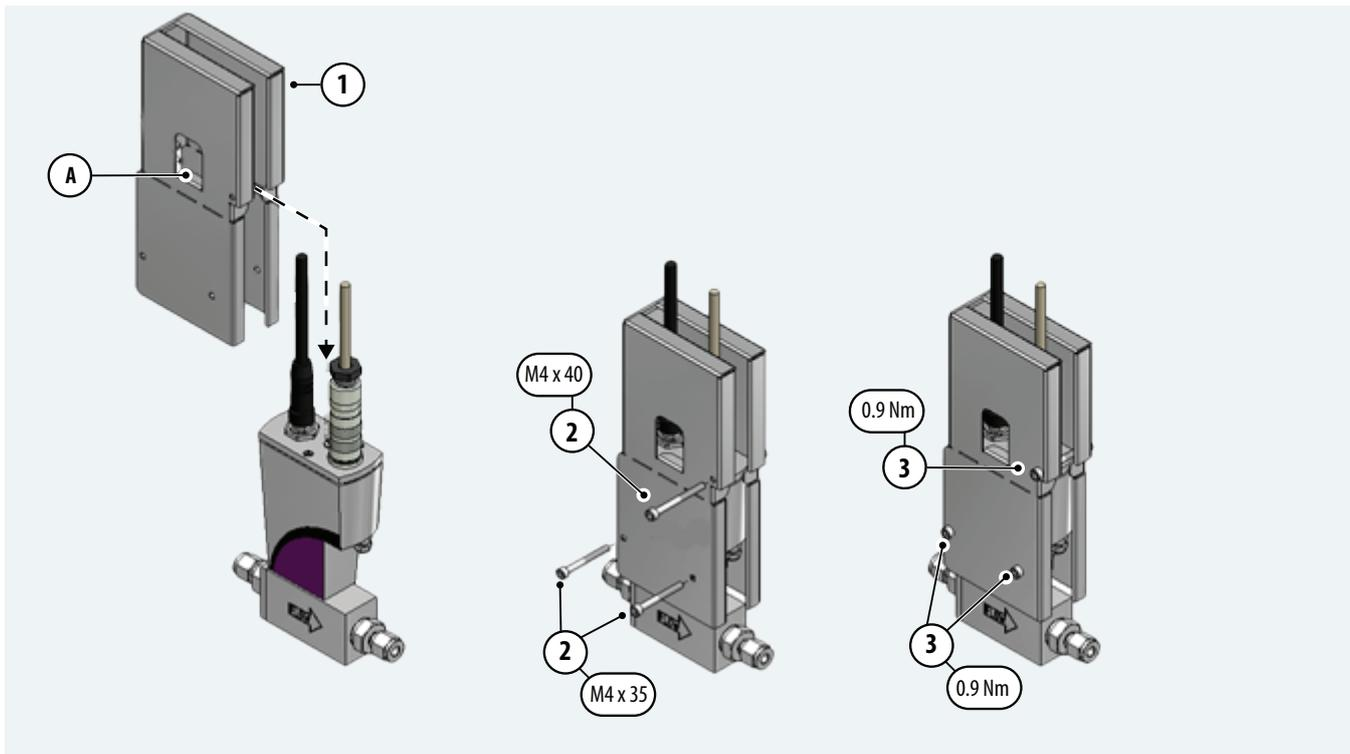
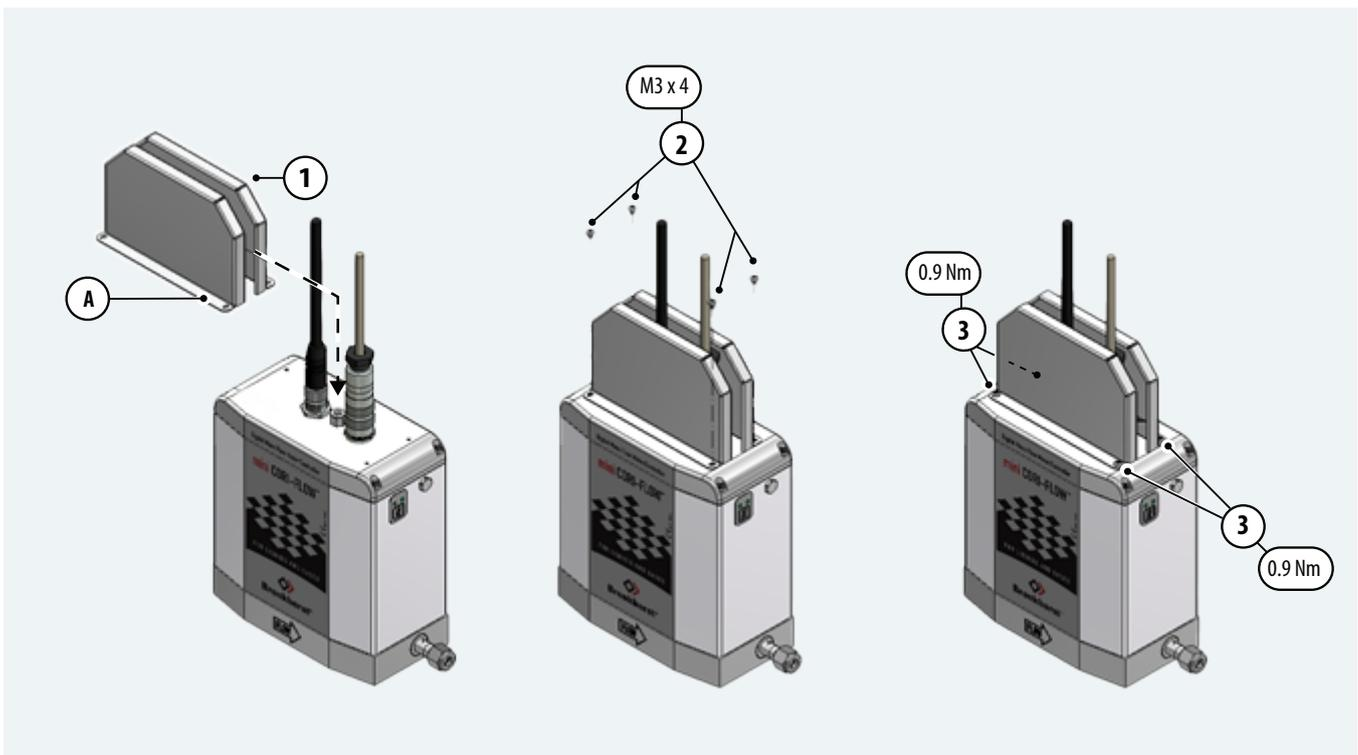

Fig. 2. IN-FLOW, IN-PRESS - protection cover placement
Fig. 10. mini CORI-FLOW™ M15 - protection cover placement
- ▶ Identify applicable model and cover (» Fig. 2 ... Fig. 10).